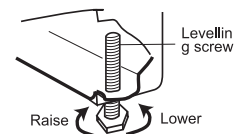

Figure 1.
- To raise or lower the front of the refrigerator, turn each screw in a clockwise or counterclockwise direction (figure 1).